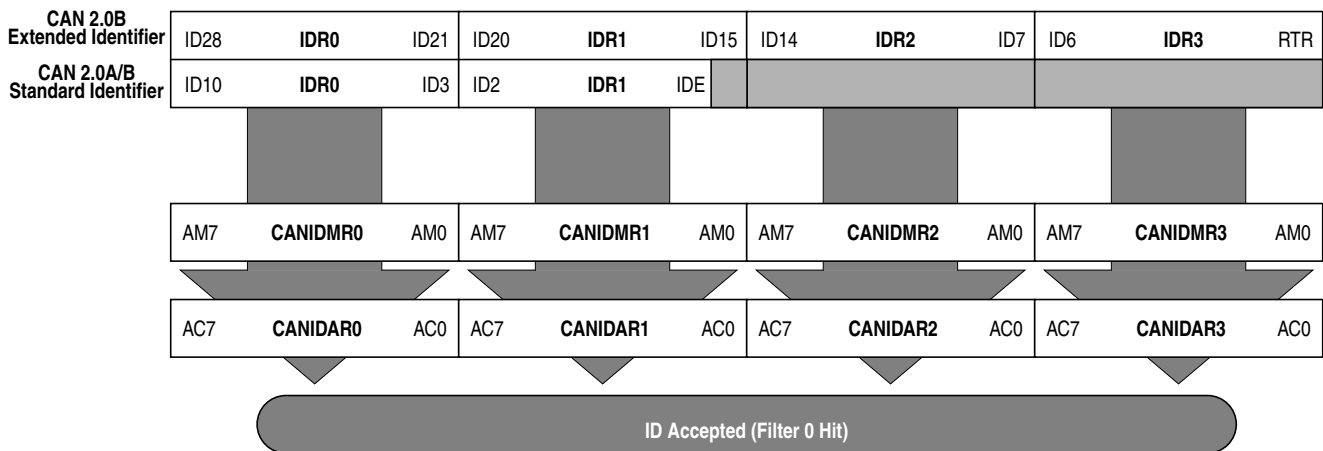

Figure 12-37. 32-bit Maskable Identifier Acceptance Filter
- The 11 bits of the standard identifier plus the RTR and IDE bits of the CAN 2.0A/B messages1. This mode implements two filters for a full length CAN 2.0B compliant extended identifier. Figure 12-37 shows how the first 32-bit filter bank (CANIDAR0–CANIDAR3, CANIDMR0–CANIDMR3) produces a filter 0 hit. Similarly, the second filter bank (CANIDAR4–CANIDAR7, CANIDMR4–CANIDMR7) produces a filter 1 hit.